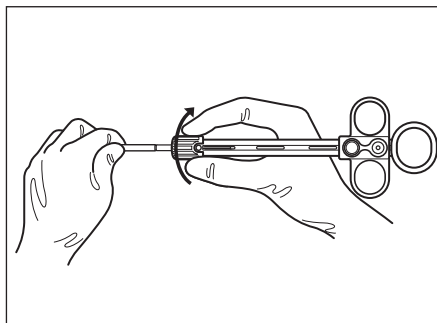

Figure 3.10
10. Insert the distal end of the chuck adapter all the way into the distal end of the control section, and then turn the clamping knob (green) counterclockwise until it clicks to lock the chuck adapter (see Figure 3.10).